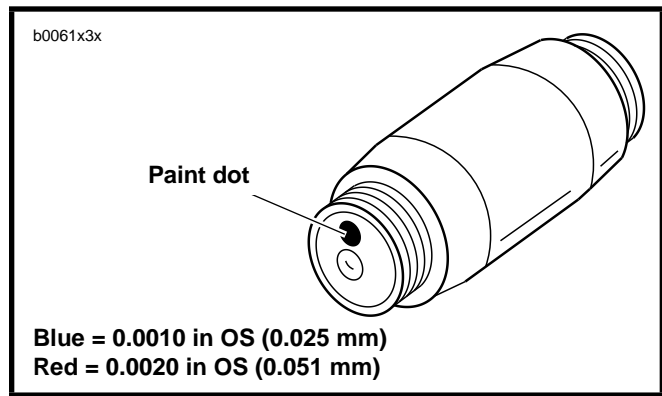

Figure 3-74. Oversize Crank Pin Identification
- See Figure 3-74. Oversize (OS) crank pins are available in two oversizes: 0.0010 and 0.0020 in. (0.025 and 0.051 mm) OS crank pins will have a blue or red paint dot applied to the ends of the pins. A blue dot indicates 0.0010 in. (0.025 mm) OS, a red dot indicates 0.0020 in. (0.051 mm) OS. Standard size crank pins will not be marked.